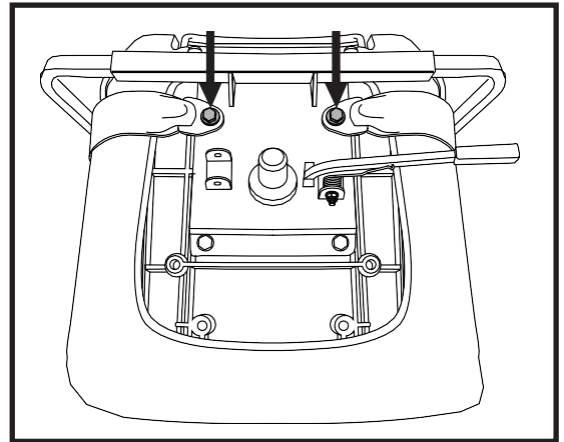

Figure 28. Positioning Belt Bolts
2. Place the seat upside down so that you can see the bottom of the seat base. See figure 28.